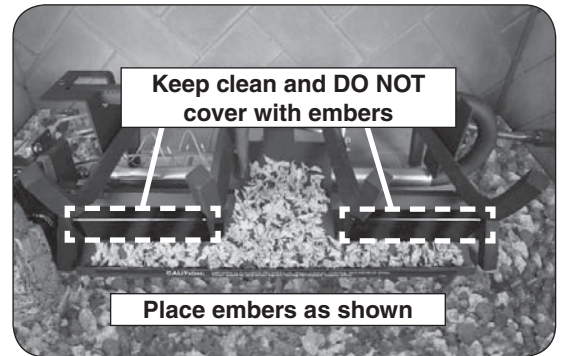

Fig. 17-2 Place glowing embers
1. Place the glowing embers evenly over the entire surface of the ember burner as shown in Fig. 17-2. **Break up any clumps that may have developed during shipment. Store unused embers for later use/replacement.**
Note: Ensure the porcelainized panels are clean of all dust. Use a clean soft cloth if necessary. See Fig 17-2.